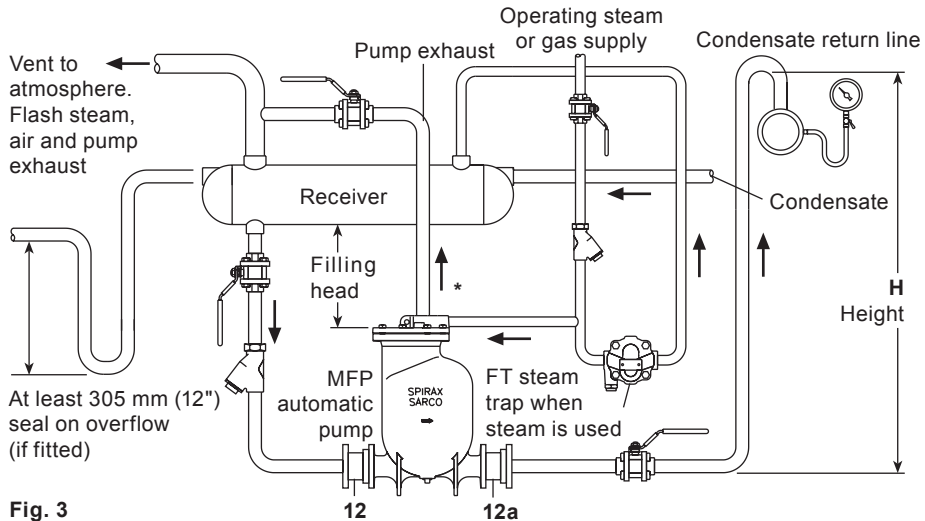

Fig. 3
1. Install the pump below the equipment to be drained with the exhaust connection vertically upwards. Pump should be installed with the recommended filling head (the vertical distance between the top of the pump and the bottom of the reservoir/receiver), see Section 3.2 and Fig. 3. For other filling head variations, refer to separate capacity chart.
2. To prevent equipment flooding during the pump discharge stroke, a vented receiver or reservoir pipe should be installed in a horizontal plane ahead of the pump as shown in Fig. 3. For proper receiver/reservoir sizing, refer to Tables 1 and 2 on page 13. All inlet line fittings must be full bore.
3. Connect the check valves (12) and (12a) to the pump making sure that the flow through the valves is in the correct direction.
Sufficient reservoir volume is needed above the filling head level to accept the condensate reaching pump during the discharge stroke. The receiver can be a length of pipe of large diameter or a tank. If desired, receiver overflow piping can be installed as shown in Fig. 3 and piped to a suitable drain. The piping must form a U-type water seal at least 305 mm (12") deep immediately after the receiver.